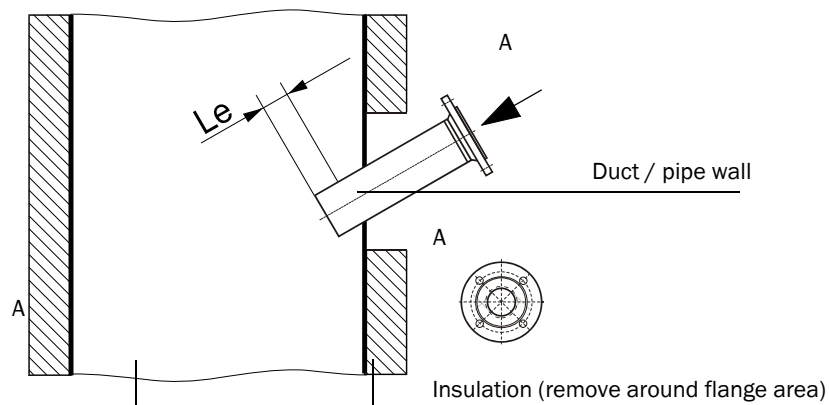

Fig. 3.6: Installation options for the flanges with pipe
- Ld as in **Fig. 3.6**
- ▶ Insert the flange with pipe in the aperture as shown in **Fig. 3.6**,